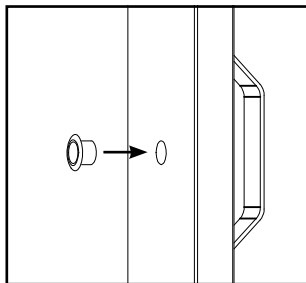

Figure 27. Installing Finger Pull with Bent Hanger Style Handle
2. Press the finger pull into place in the drilled finger pull hole as shown in Figure 27.